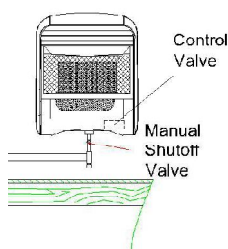

Figure 14 -Checking Gas Connections
3. Check all joints from propane/LP supply tank to equipment shutoff valve (see Figure 14). Apply mixture of liquid soap and water to gas joints. Bubbles forming show a leak.
4. Check all joints from equipment shutoff valve to control valve (see Figure 14). Apply mixture of liquid soap and water to gas joints. Bubbles forming show a leak.